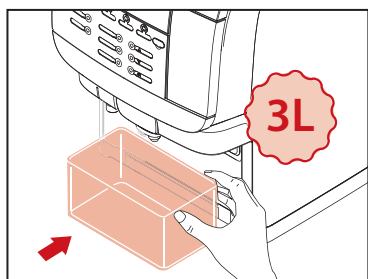

Fig.9
9. Place a 3L cleaning container under the coffee dispenser's outlet to catch all cleaning water (See Fig.9).
9. Insert the milk suction tube into the cleaning container (See Fig.9).
9. After rinsing or washing, dry the tank and lid (See Fig.9).